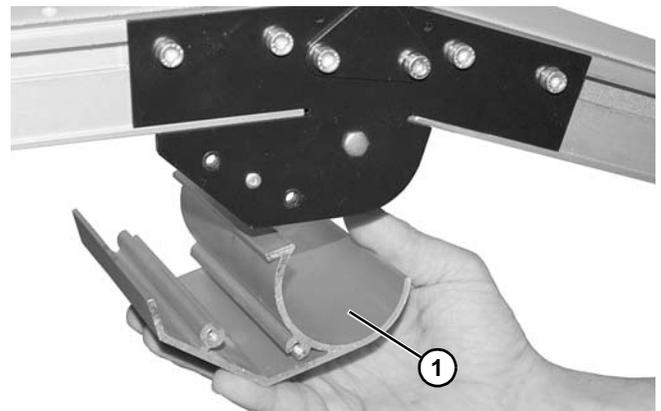

Figure 84
2. Position guard (**Figure 84, item 1**) between knuckle plates.